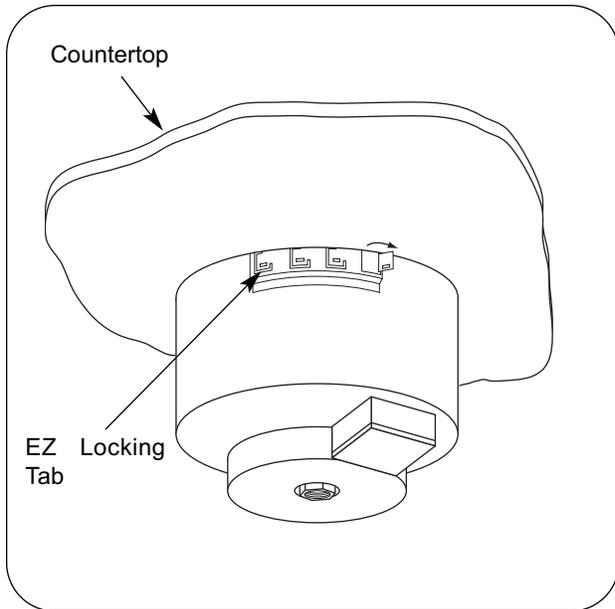

Figure 9. EZ Locking Tabs
5. Use a screwdriver to rotate the EZ locking mounting system on the Built-In Heated Well outward, to secure the unit from the underside of the countertop. Twist as many tabs as needed to secure unit to the countertop. See Figure 9.